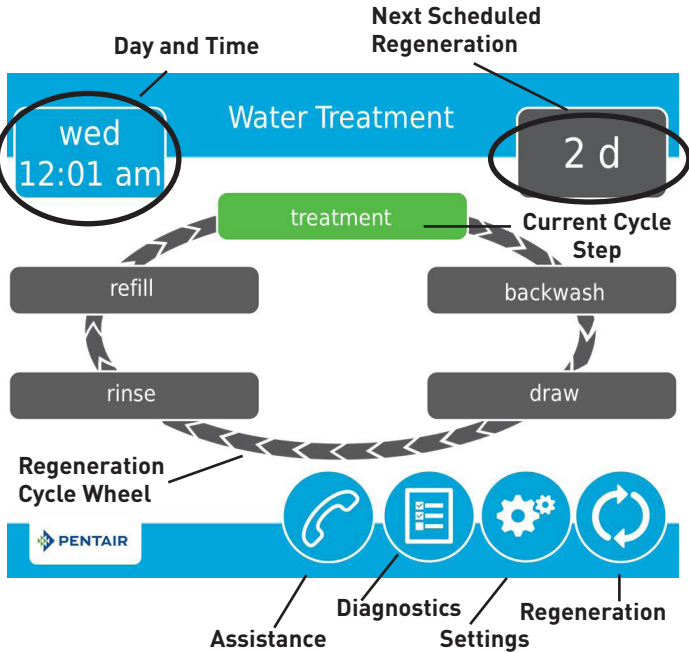

Figure 7 Home Screen
- After pressing , the Home screen (Figure 7) appears.